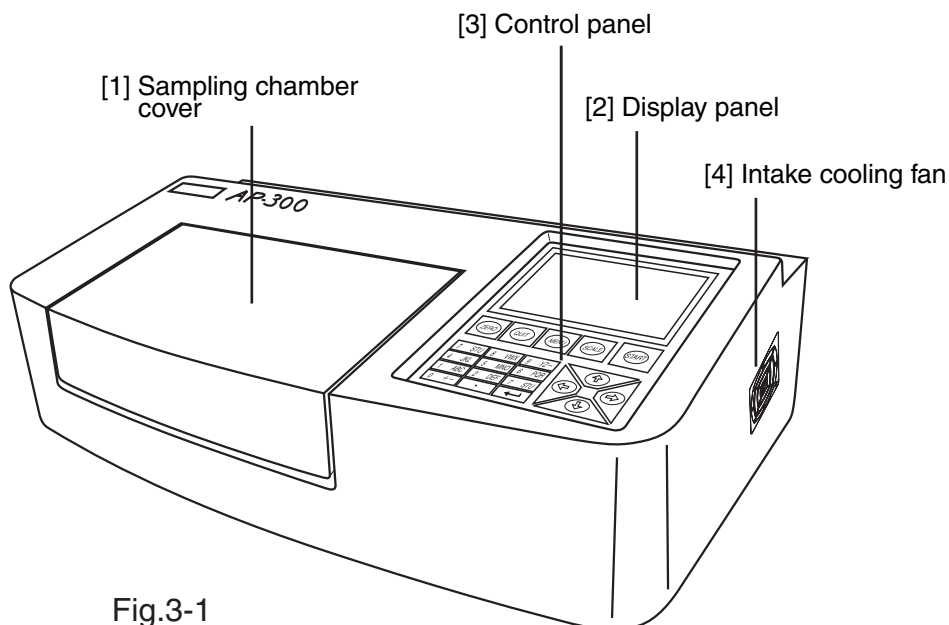

Fig.3-1
(1) AP-300 main body (Figs.3-1, 3-2)